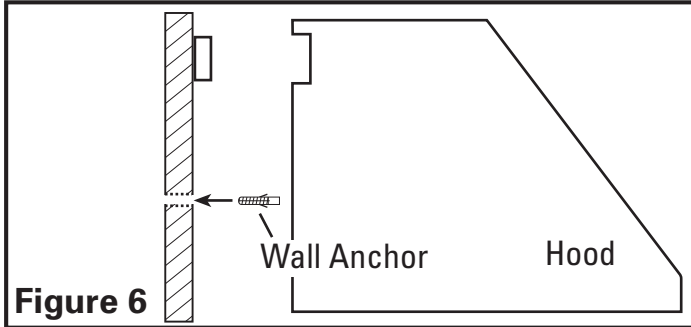

Figure 6
3. Install wall anchors by drilling holes at the marked locations on the template then installing the anchors in place. An alternative method is to rest the cavity in the back side of the hood on the wood strip and mark drilling locations on the wall for wall anchors on the bottom rear of the hood then remove hood and install wall anchors (Figure 6).